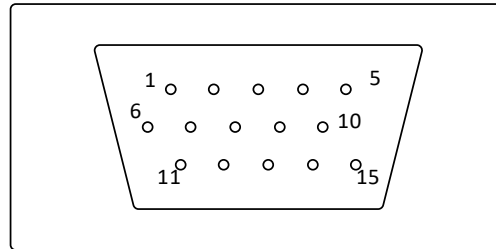

Figure 8 External control interface
KA1 (Rollers) external port has 15 pins. As showed in figure 8. Including external start/stop, direction changing, analog signal control speed, communicating and status output functions.
- RS485 communication mode is that connect the external control interface Pin A+(Pin 5) as show in the figure 8 to RS485 module T/R+. Connect the Pin B-(Pin 4) to RS485 T/R- pin. The user can control the operation of the pump according to the content of the product agreement.